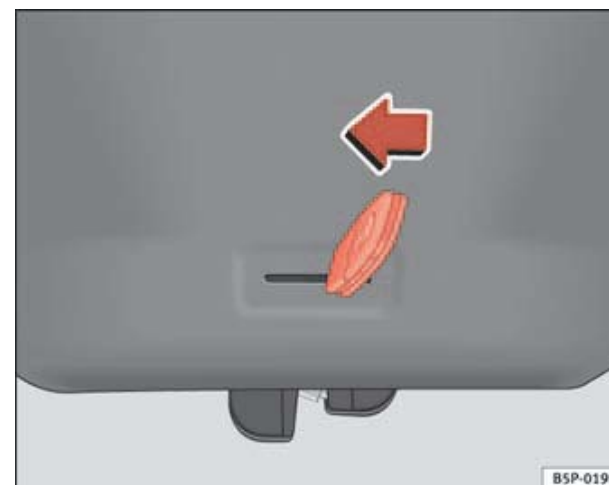

Fig. 67 Tailgate: emergency opening
- Insert the key bit in the groove and unlock the locking system, turning the key from right to left, as shown by the arrow ⇒ fig. 67. ■